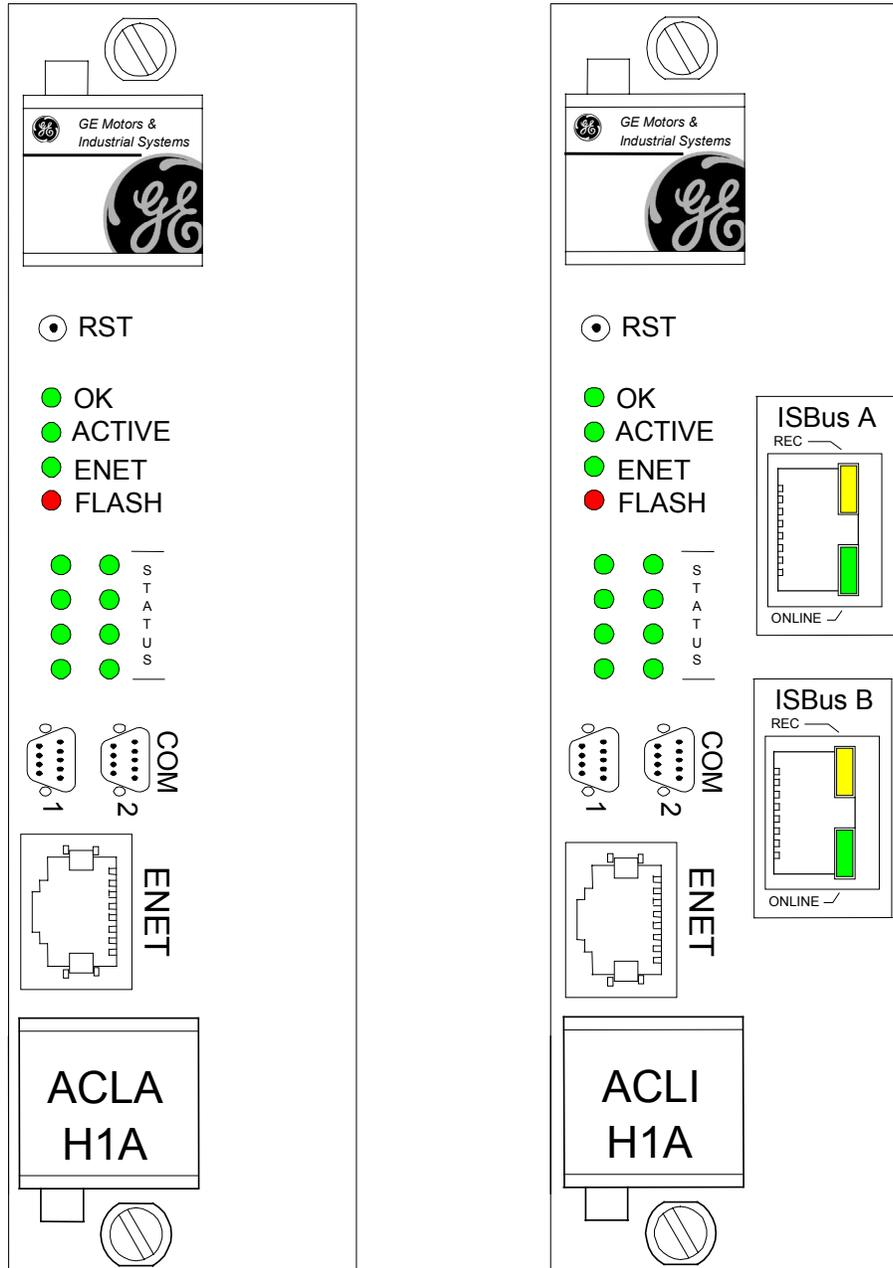

Figure 1. IS215ACLA and IS215ACLI Module Faceplates
Refer to Figure 1 for the module faceplates.
**Note** Do not reset or power down the ACL when the FLSH LED is lit (see Figure 1 for location). Doing so may corrupt the flash file system and a flash reload may be required.